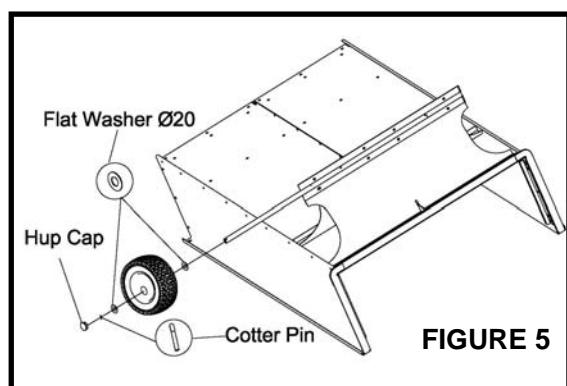

FIGURE 5
13. Assemble the axle through the wheel support as shown in **Figure 5**.
15. Assemble a Ø20 flat washer , a wheel (valvestem out) ,another Ø20 flat washer and a cotter pin to each end of the axle as shown in **Figure 5**.
16. Assemble a hub cap over the Ø20 flat washer on each end of the axle as shown in **Figure 5**.